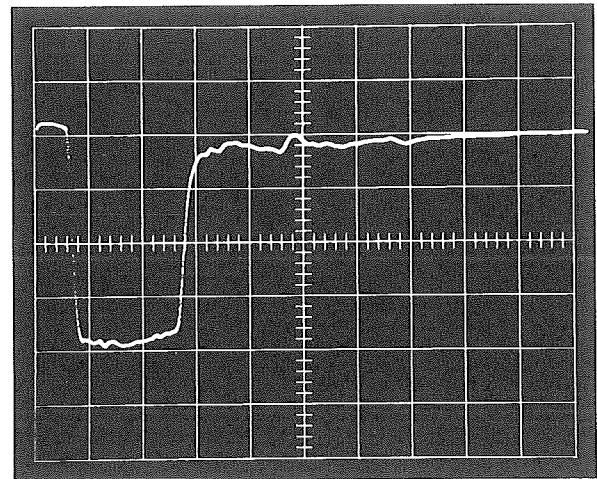

Fig. 3-10. The switching pulse applied to the transistor base.
2. Turn pulse generator on and set oscilloscope controls for a display similar to that shown in Fig. 3-10.